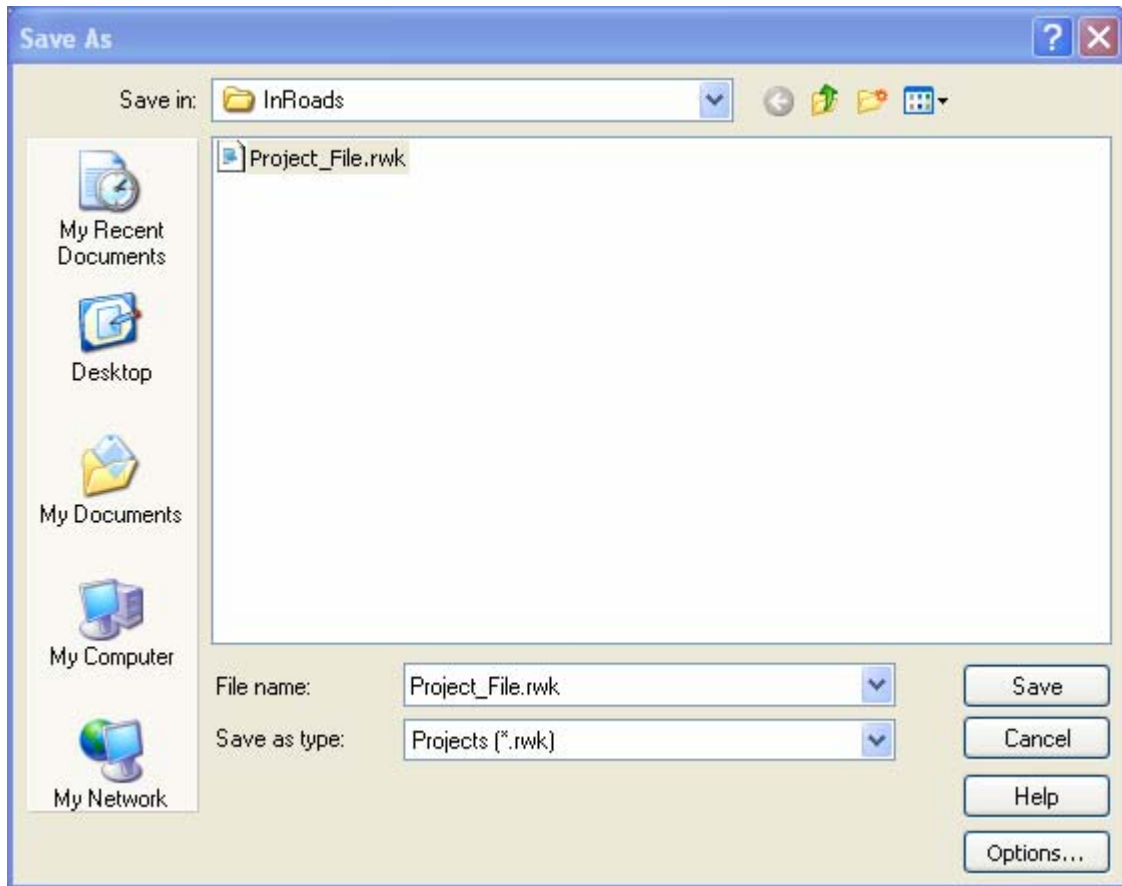

Figure 1-11 InRoads Save As Projects Dialog Box
- N. On the Save As dialog box (Figure 1-11) data point in the File name field and type in the name of the file e.g. **Project_File**. Click the **Save** button and then click **Cancel**.